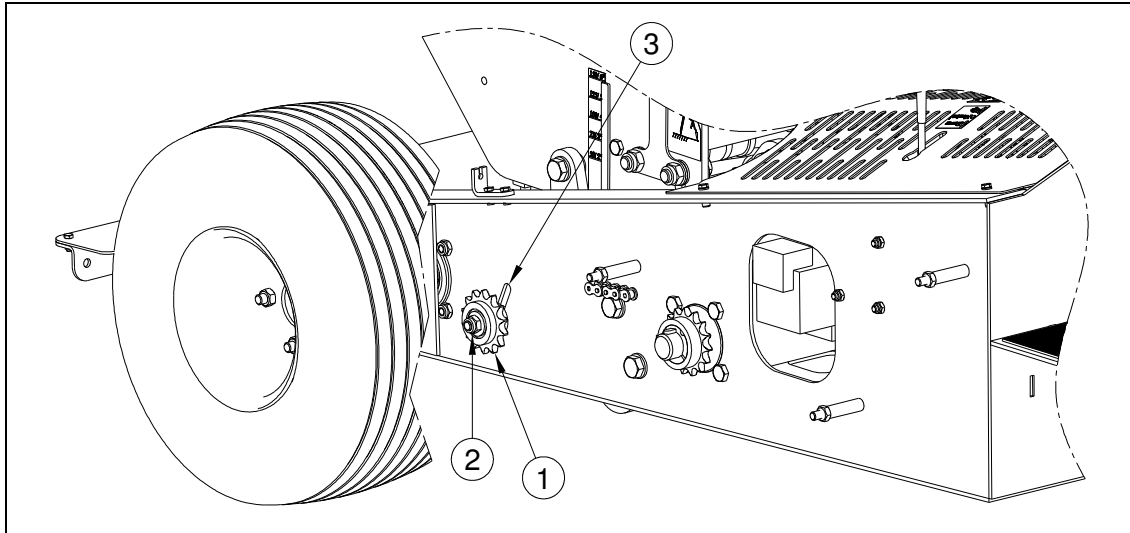

Fig. 26
Fig. 26 shows a drawing of the chain drive of the back wheel. The tensioning wheel (1) can be found behind the back wheel. Remove the side cover to access the tensioning wheel (1) and adjust it.